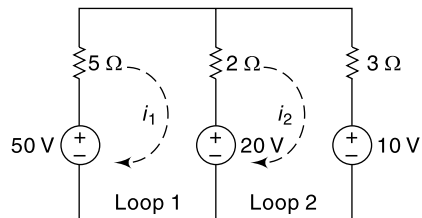

Fig. 4.47 Circuit of Ex. 4.32
4.32 From the mesh analysis find the current flow through a 50 V source in Fig. 4.47.
Let us designate the loop currents by dotted arrows in the network of Fig. 4.47.